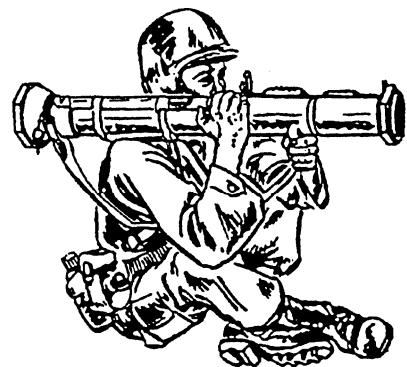

Figure 14-41.—Sitting position.
1. For the sitting position (fig. 14-41), keep the launcher pointed toward the target and execute a